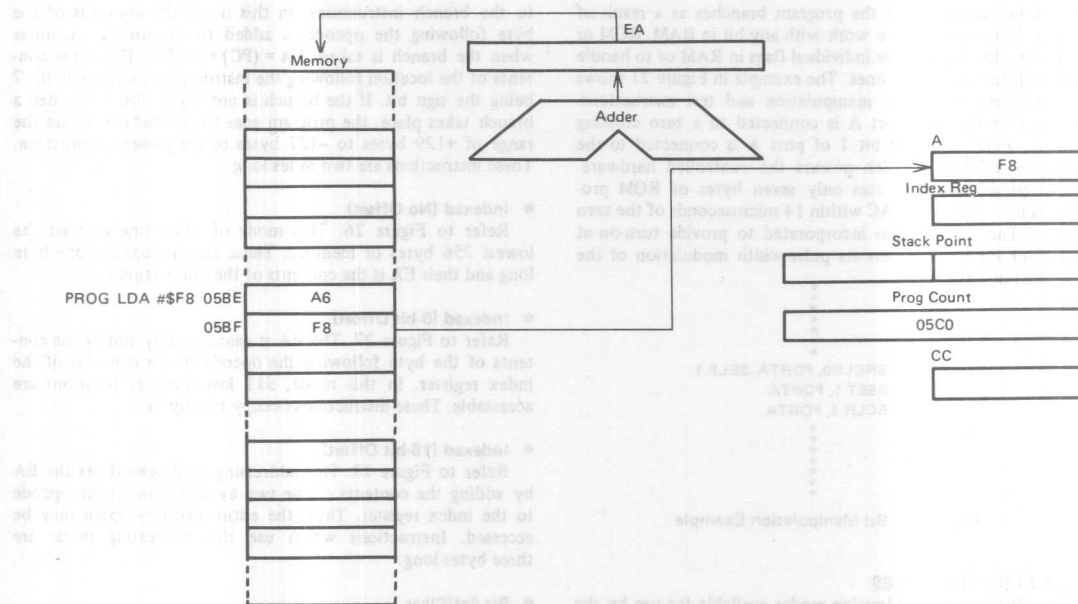

Figure 22 Immediate Addressing Example
Refer to Figure 22. The immediate addressing mode accesses constants which do not change during program execution. Such instructions are two bytes long. The effective address (EA) is the PC and the operand is fetched from the byte following the opcode.